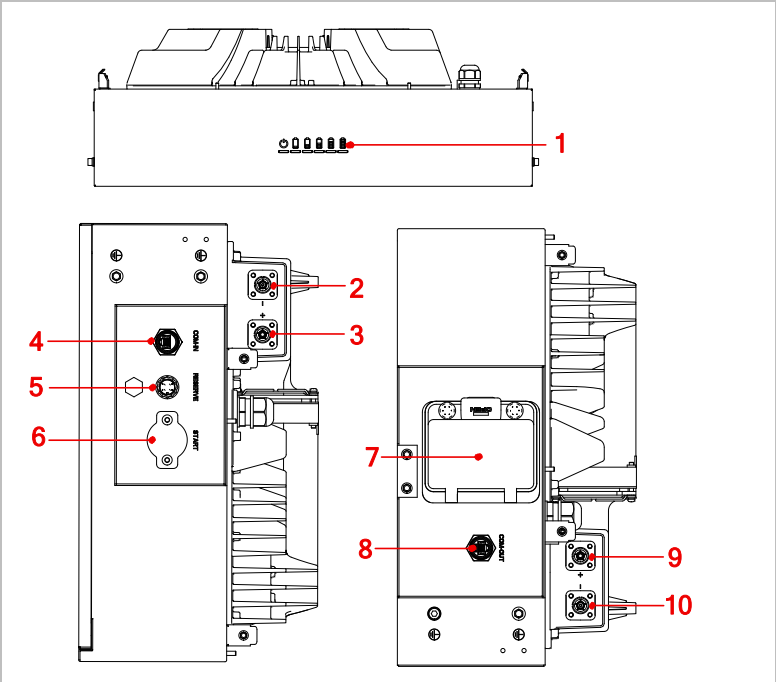

Figure 3-5 Schematic diagram of battery control unit ports
- If chooses to purchase a support frame due to uneven ground or the need for a certain height above the ground, the base cannot be fixed on the ground. As shown in Figure 3-5.